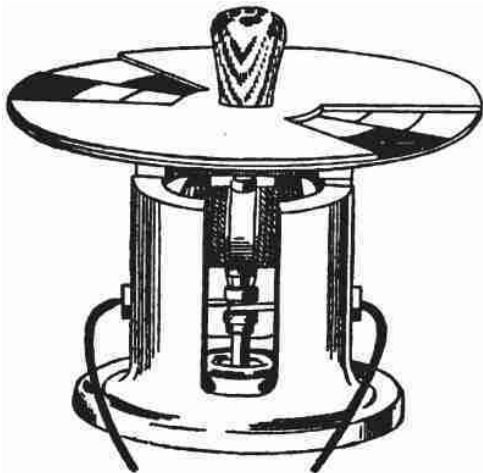

Fig. 26
8. *The Electric Spinner* (Fig. 26).—A toy full of instruction. The standard is a steel magnet which produces a magnetic field. Inside of this is an electro-magnet which serves as an armature. Plainly visible on its shaft is a commutator to which the electric current from a dry cell is sent. This causes the armature to revolve and carry with it a series of colour disks which may be adjusted so as to show what tint or shade results from mixing colours in various proportions.